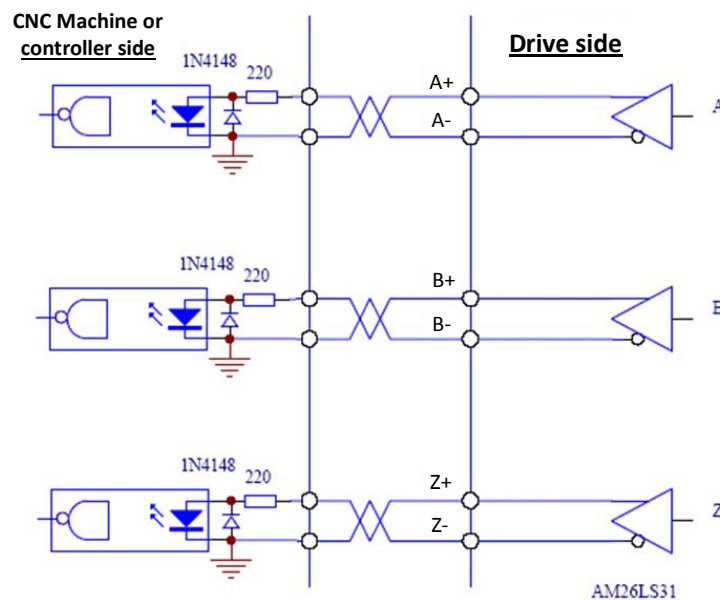

Figure 4-6b Type5 optical encoder output signal
- The input terminal of CNC controller may be an opto-coupler for the receiving purpose, but high-speed opto-coupler must be used (e.g. 6N137) as shown in Figure 4-6b;